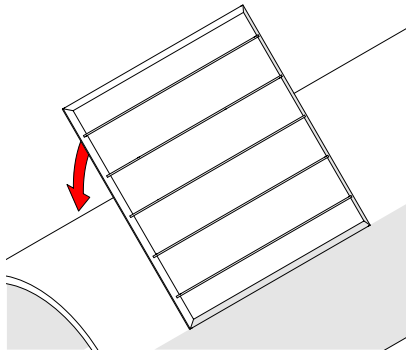

Fig. 98 - Place installation/removal mat
3. Place the installation/removal mat on the inspection surface (Fig. 98).